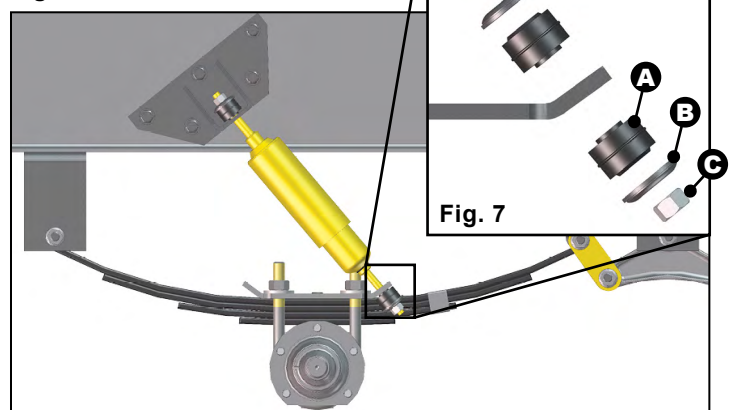

Fig. 8
- Apply the rubber grommet (Fig. 7A), washer (Fig. 7B) and nut (Fig. 7C) (in that order) and tighten to secure the shock (Fig. 8).